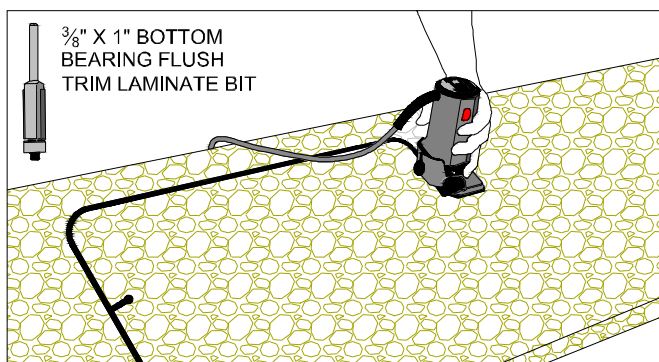

Figure 17B
- Use a laminate tilt-base trim router with a  $\frac{3}{8}$ " bottom bearing flush trim bit, remove the laminate over the sink. (FIG. 17B)